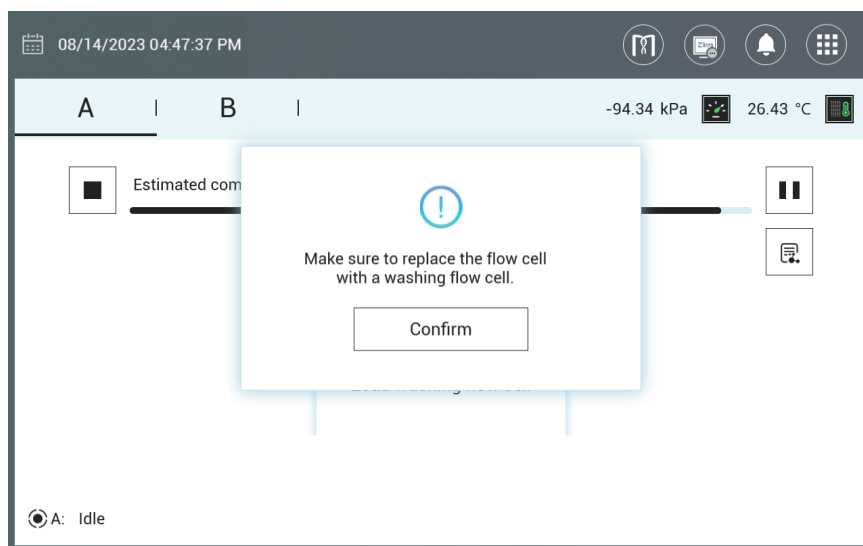

Figure 12 MGIDL-T7RS flow cell loading complete status interface
16. The process takes approximately 2.5 hr. When flow cell loading is complete, the screen appears as shown in Figure 12.
18. When loading is complete, install the washing flow cell onto the flow cell stage and press the flow cell attachment button. Close the flow cell compartment door. Select **Confirm** as shown in *Figure 12 on Page 25*.